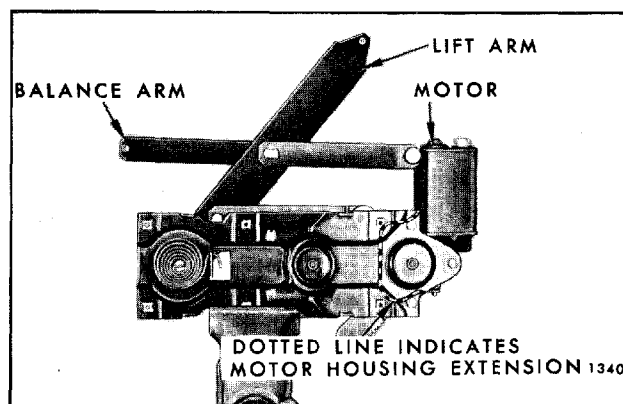

Fig. 7-96—Door Window Regulator and Electric Motor Assembly
1. Remove front door window electric regulator and clamp assembly in a vise (Fig. 7-96).
IMPORTANT: DO NOT drill into the motor housing, part of which is indicated by the dotted line illustrated in Figure 7-96. In addition, locate hole sufficient distance from edge of sector gear to insure proper retention of sector gear to back plate.
- Remove regulator motor attaching bolts and remove motor from regulator assembly. (Fig. 7-96).